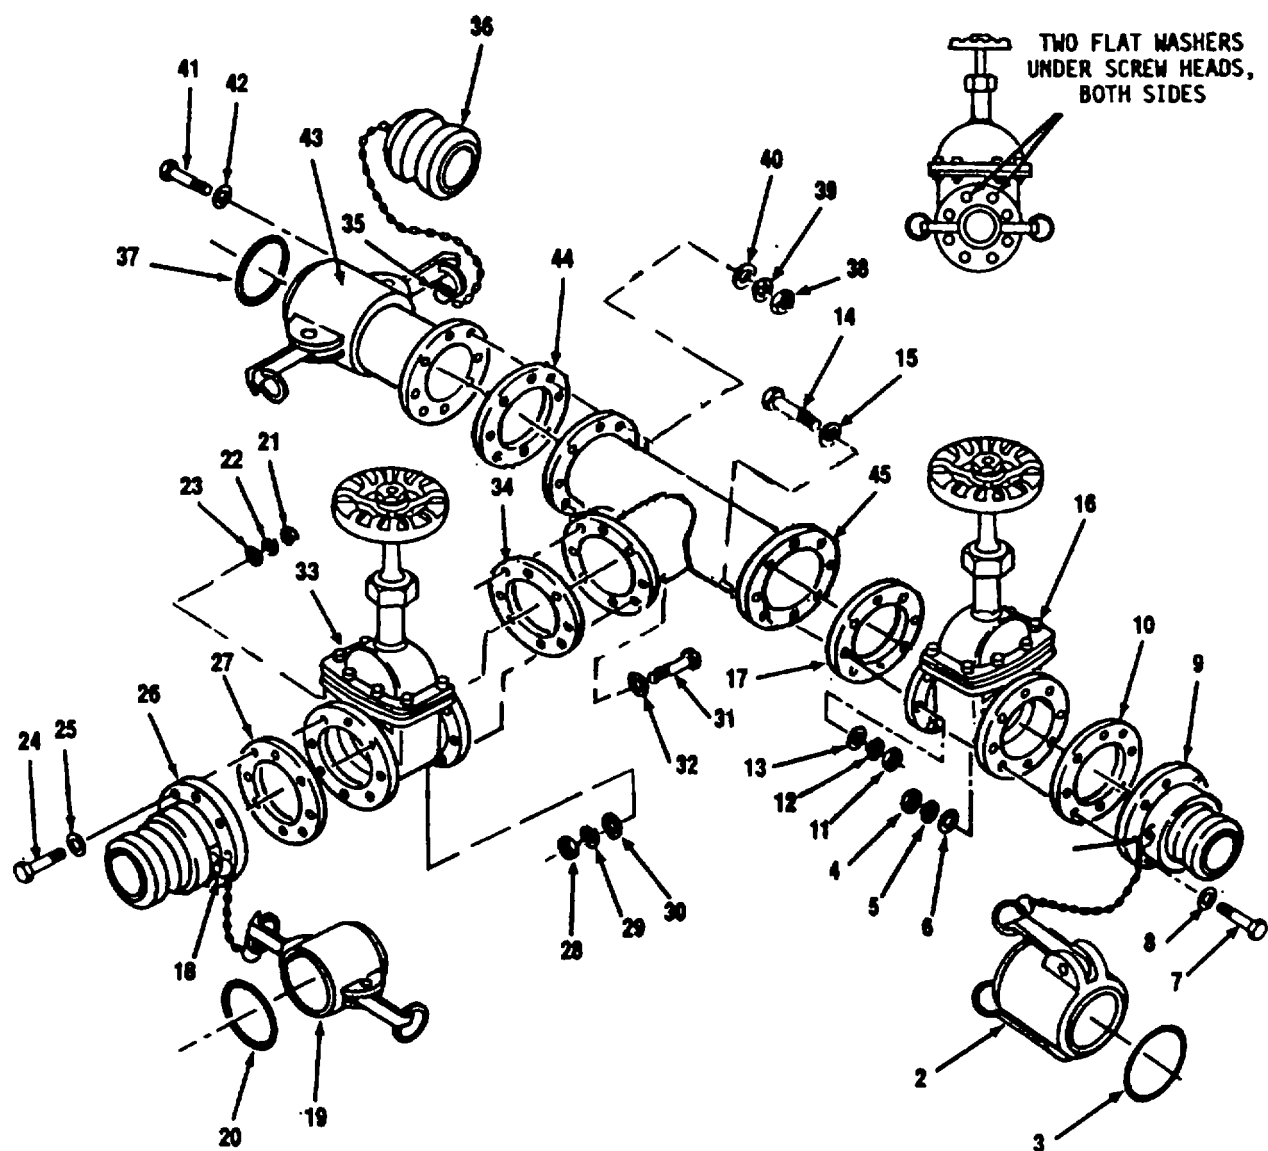

Figure 4-16. Tee and Dual Gate Valve Assembly (9148-Y2) Assembly
- (1) Refer to para. 4.24 to repair gate valve.
- (2) Replace defective components. Do not reuse gaskets (3, 20 and 37), flange gaskets (10, 17, 27, 34 and 44) or lockwashers (5, 12, 22, 29 and 39).
e. Assembly. Refer to Figure 4-16.
- (1) Position gasket (44) and female coupling (43) on tee (45).
- (2) Install eight flat washers (42), screws (41), flat washers (40), lockwashers (39) and nuts (38).